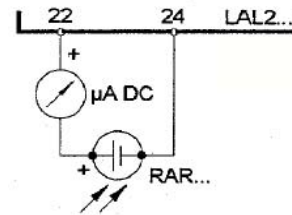
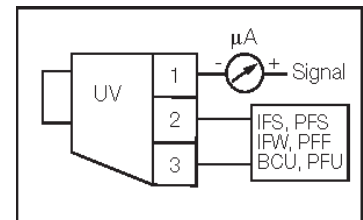

Fig. 22
Fig. 23
- Check and clean the detection photoresistor, adjust and, if necessary, replace it (Fig. 23).
To measure the detection signal follow the diagram in Fig. 22 - Fig. 23.